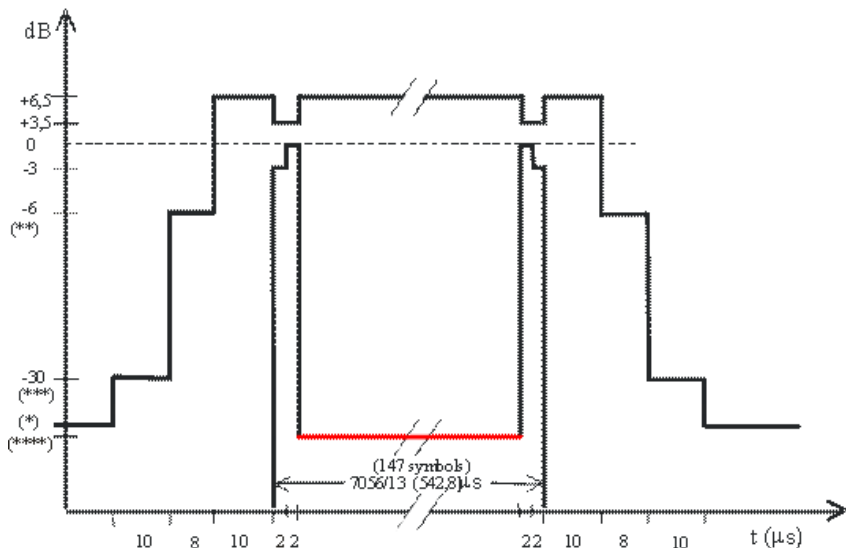

Figure 1 0-1 Time mask for normal duration bursts (NB) at 16-QAM and 32-QAM modulation at normal symbol rate
According to the Standards, the lower limit within the useful part of normal duration bursts (NB) is seen as undefined for 16-QAM and 32-QAM. The lower limit (red in the Figure 1) is set to -200 by default. This command allows you to set the lower limit as you like. Only SCPI remote command is supported. Note that the lower limit is shared in the BTS and MS modes.